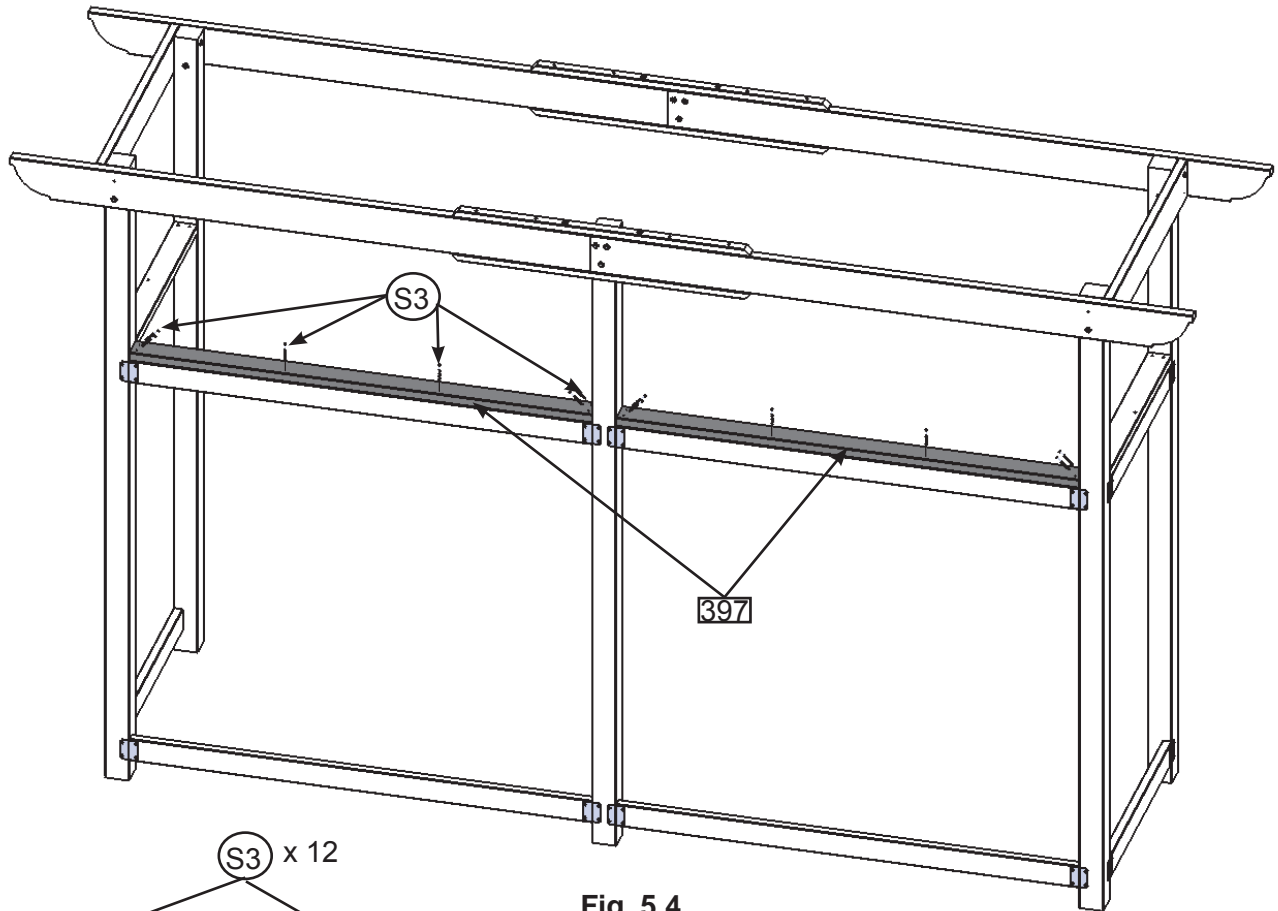

Fig. 5.4
B: Attach one (397) per side as shown in fig. 5.4 & 5.5.